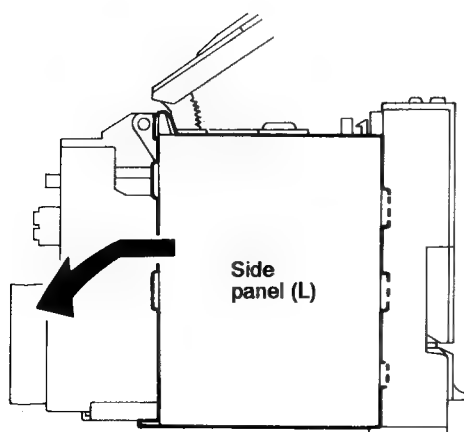

Fig. 5-5
3. While moving the side panel (L) in the arrow direction, remove the panel from the left side of the body (See Fig. 5-5).